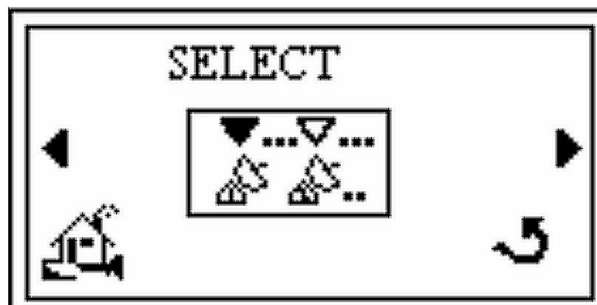

Figure 2-14 Select Screen
4. Press **Enter** and the the *Select* screen appears (Figure 2-14).